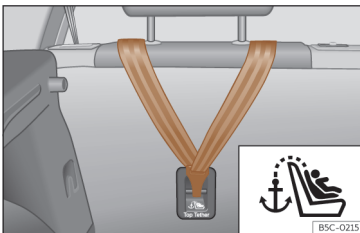
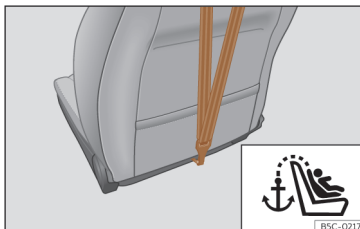

Fig. 43 Rear part of the rear seats: Top Tether belt anchor.
Fig. 44 Rear of front passenger seat backrest: Top Tether belt anchor (not available in all markets/versions).
Child seats with a Top Tether system are fitted with an additional belt for fastening to an anchor point in the vehicle. This anchor point is located on the rear of the rear seat backrest and of the front passenger seat backrest¹⁾ (identified with the symbol ) and provides better retention >>> Fig. 43, >>> Fig. 44.
- Slide the belt and secure it properly with the anchor on the rear seat backrest >>> **Fig. 43**, >>> **Fig. 44**.